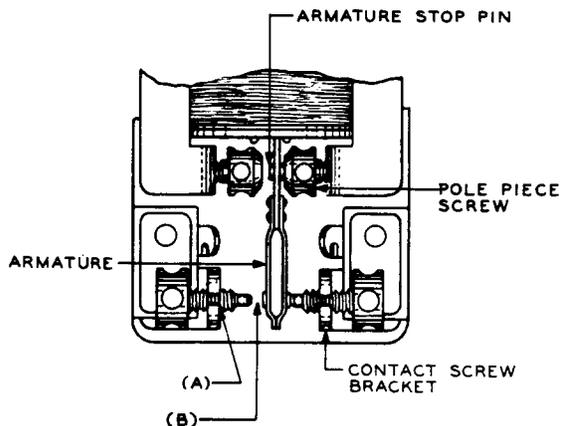

Fig. 5 — Contact Travel
***2.08 Tightness of Contact Screws:** Fig. 5(A) — Contact screws shall be sufficiently tight in their bracket to hold any adjusted position.
2.10 Contact Travel: Fig. 5(B) — The contact travel, that is the distance the armature can travel in passing from a position against one contact screw to a position against the opposite contact screw, shall be